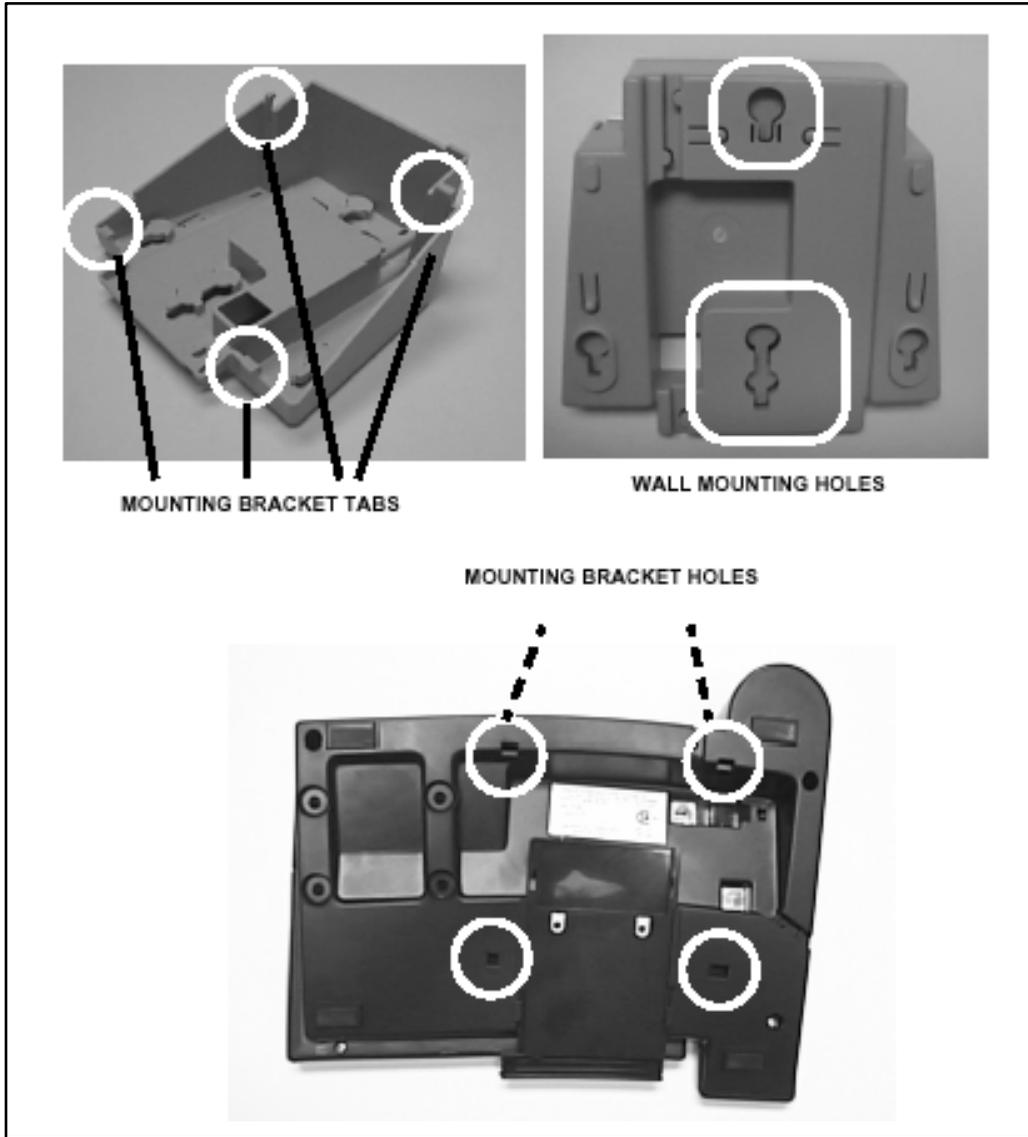

Figure 3-37: Digital Key Telephone Wall Mounting
To wall mount the Digital Key Telephone, it is necessary to use the Wall Mount bracket and one standard-type jack assembly designed for normal wall hanging applications. Refer to Figure 3-36 and Figure 3-37.
5. Place the handset onto the retainer. The telephone is now ready for use. Refer to Figure 3-37 for location of mounting information.